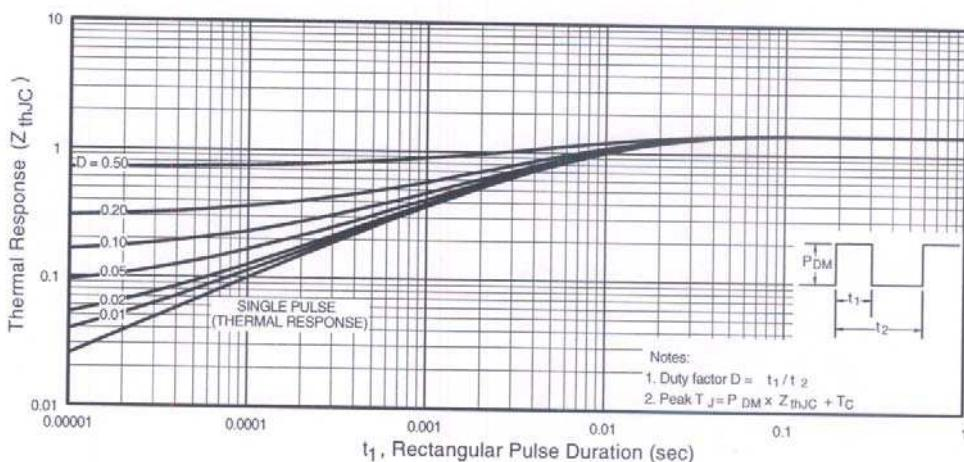

Fig 11. Maximum Effective Transient Thermal Impedance, Junction-to-Case
① Repetitive rating; pulse width limited by max. junction temperature. (See fig. 11)
④ Pulse width $\leq 300\mu\text{s}$; duty cycle $\leq 2\%$.
② Starting $T_J = 25^\circ\text{C}$, $L = 14\text{mH}$